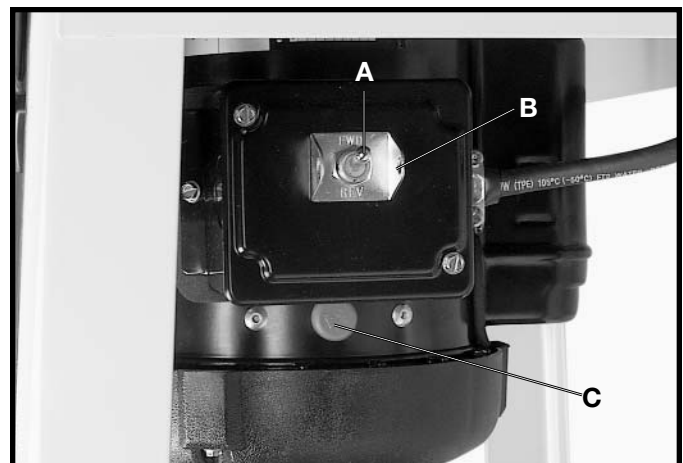

Fig. 24
The motor supplied with your shaper is equipped with a reversing switch (A) Fig. 24, located on the motor junction box. **CAUTION:** Never attempt to change the rotation of the spindle with the motor running. **NOTE:** If it is desired to operate the shaper spindle in only one rotation or to prevent any accidental changing of the spindle rotation, a padlock can be inserted through the holes in the switch bracket (B).
The motor supplied with your shaper is equipped with a reset overload relay button (C) Fig. 24. If the motor shuts off or fails to start due to overloading (shaping stock too fast, using a dull cutter, using the shaper beyond its capacity, etc.) or low voltage, **TURN THE SWITCH TO THE "OFF" POSITION**, let the motor cool three to five minutes and push the reset button (C) which will reset the overload device. The motor can then be turned on again in the usual manner. **IMPORTANT:** If the motor continually shuts off due to overloading, the cause of overloading must be corrected. If this happens it is recommended you obtain advice from a qualified electrician.